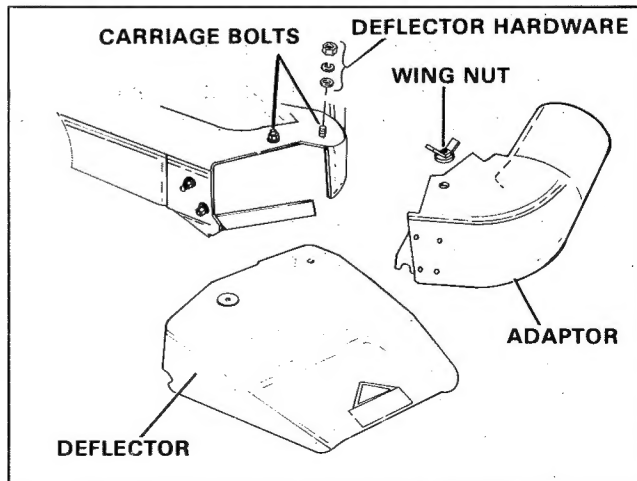

Figure 6. Replacing Mower Deflector
6. Replace deflector on mower housing, holding it in place with the wing nut used to hold the adaptor, and the hardware in the rear hole removed from the mower housing when the deflector was removed. (See figure 6.)